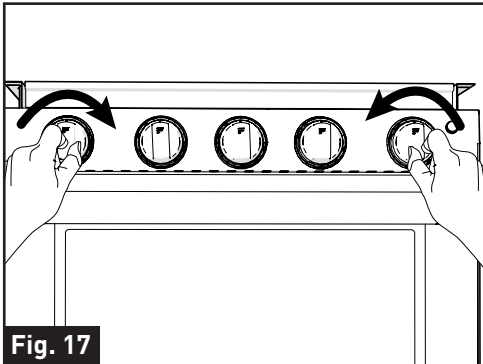

Fig. 17
4. Continue to push and hold the oven control knob in and rotate the ignition button clockwise repeatedly until burner lights. (Fig. 17)